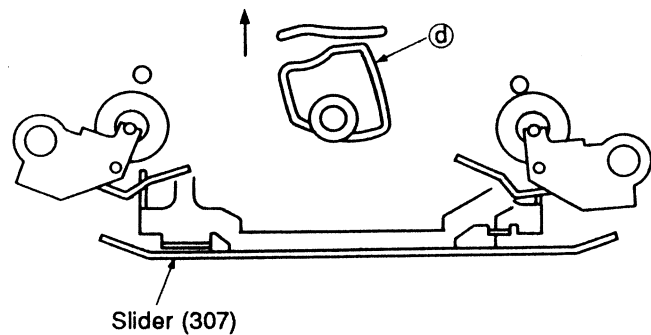

Fig. 10
15. In the FWD PLAY/REC position, gear assembly cam (d) lifts the head slider and slider (307) above it. The pinch roller contacts the capstan, and forward playback starts. (Fig. 10)